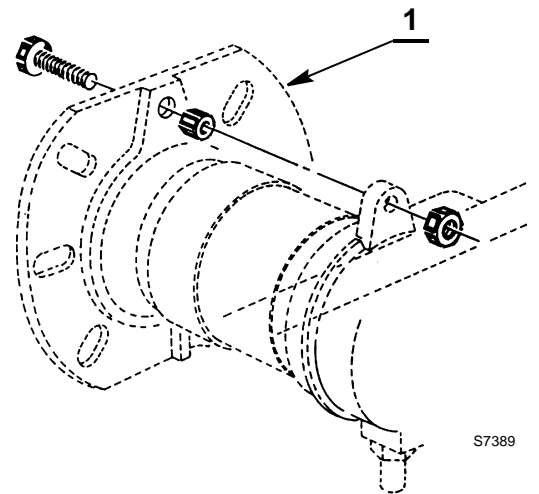

Fig. 2
- Put on the flange (1) the screw and two nuts, (see fig. 2).